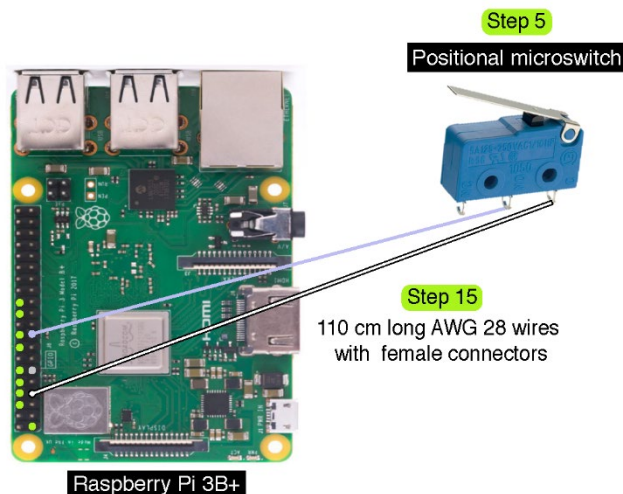

Figure 6. Wiring the positional microswitch.
- Solder two 110 cm long AWG 28 wires to the microswitch contacts (**Fig. 6**):